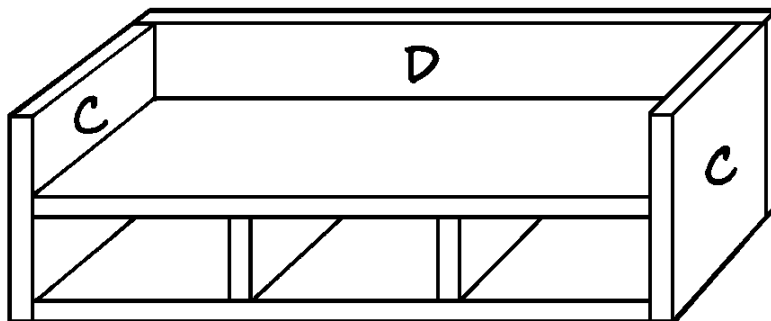

Figure 2
4. From 1 x 8 pine, cut two 9-1/4"-long sides (C).
5. Position the sides (C) on the assembly as shown in *Figure 2*. Note that the sides (C) are flush at the front, back, and bottom of the assembly, but extend above the top face. Glue the sides (C) onto the ends of both of the top/bottom pieces (A) and secure them in place with three 1-1/4" screws at each joint.
6. Cut one 27-3/4"-long back (D) from 1 x 8 pine.
7. Attach the back (D) to the assembly, as shown in *Figure 2*. Note that the back (D) is flush with the assembly at the bottom and at the sides, but extends above the top/bottom piece (A). Glue the back (D) to the edges of the top/bottom pieces (A) and to the ends of both sides (C). Drive three 1-1/4" screws through the back (D) at each joint.